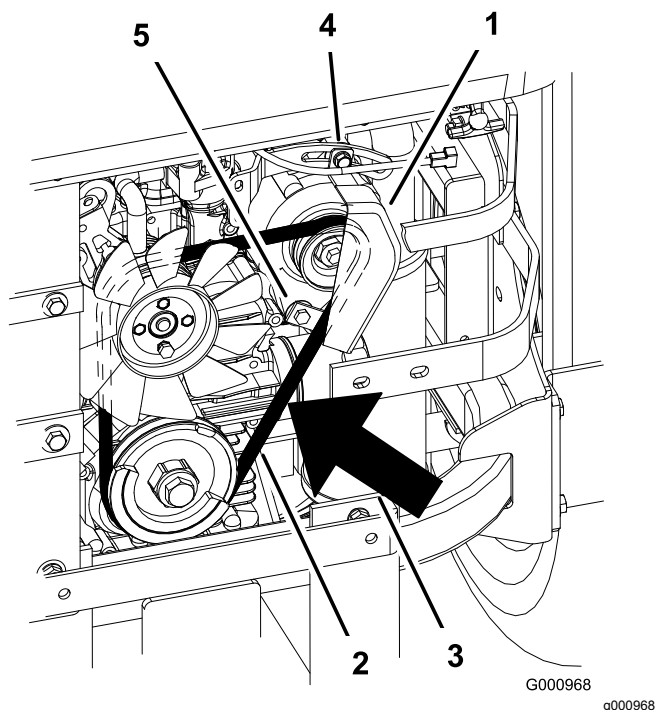

Figure 83
7. Loosen the bottom bolt and remove the upper bolt holding the alternator and cover (Figure 83).
9. Install a new belt around the pulleys and the alternator (Figure 83).
14. Tighten the bottom bolt and install the upper bolt holding the alternator and cover (Figure 83).
2. Adjust the alternator to the outside until there is 7 to 9 mm (1/4 to 11/32 inch) deflection in the belt between the engine and the alternator pulleys with 10 kg (22.1 lb) of force (Figure 83).
5. If the deflection is correct, tighten the bottom and upper bolt (Figure 83).